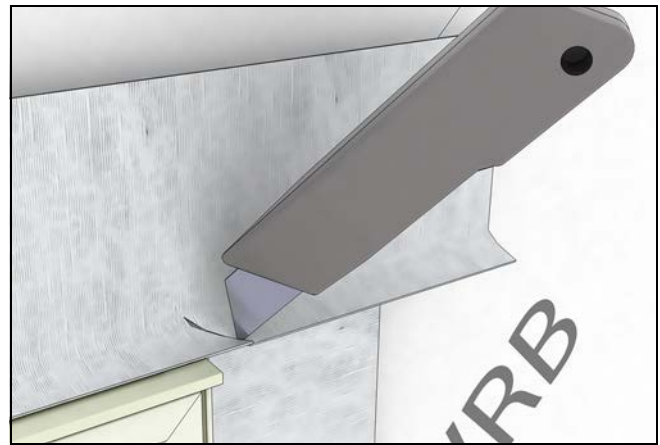
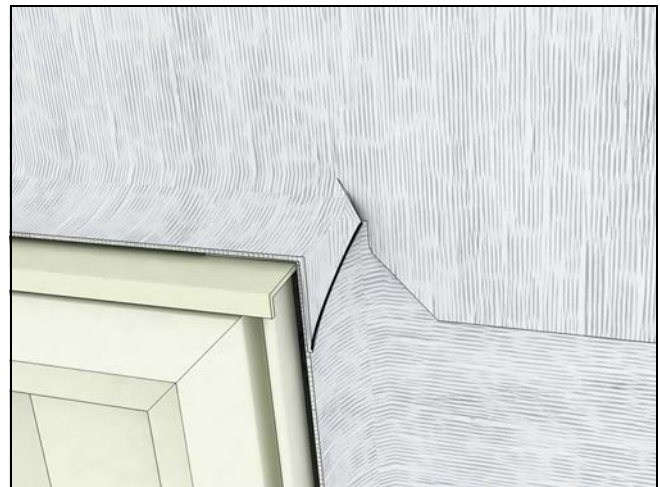

Figure 51
Figure 52
7. Install another layer of adhesive membrane lapping onto the head jamb of the unit and over the sheathing. The membrane flashing at the head jamb should extend and cover the flashing previously installed at the jambs. Make relief cuts and fold down so that it wraps around the jamb See Figure 51 and Figure 52.